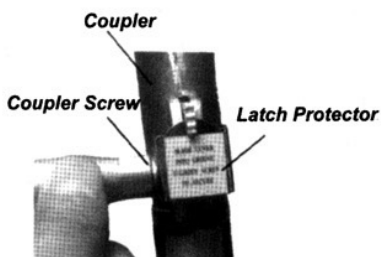

Figure 13
4. When the two tube halves are locked together, slide the latch protector into groove of latch, then tighten the coupler screw. See Figure 13.